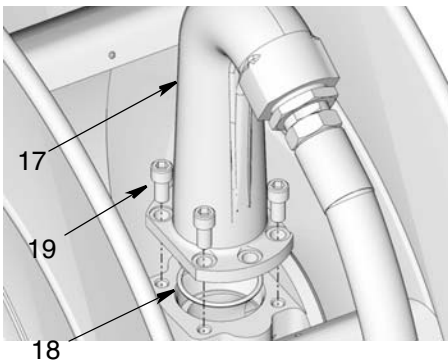

FIG. 9
1. Reverse direction of outlet (17).
- a. Remove bolts (19) and outlet (17) from reel (FIG. 9).